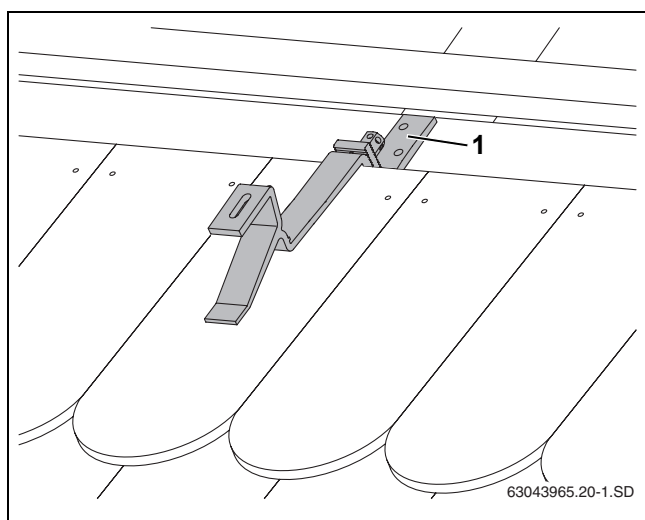

Fig. 19 Assembled roof hook
- Push down the lower part of the roof hook as much as possible until it comes to rest on the rafter or boards (Fig. 19, [1]).